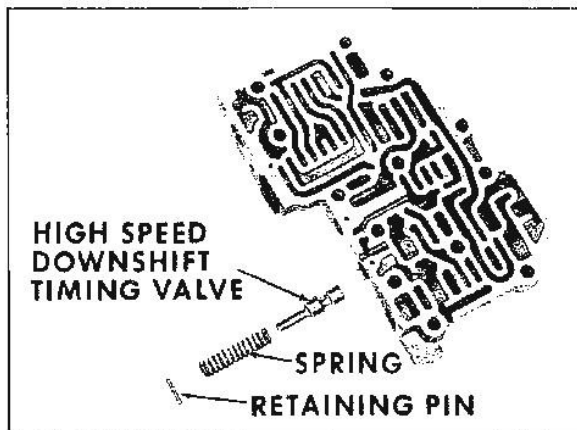

Fig. 7B-48 High Speed Downshift Timing Valve - Exploded View
1. Install high-speed downshift timing valve and spring (Fig. 7B-48). Depress spring with needle-nose pliers and install retaining pin.
2. Install modulator limit valve and spring (Fig. 7B-47). Depress spring with needle-nose pliers and install retaining pin.